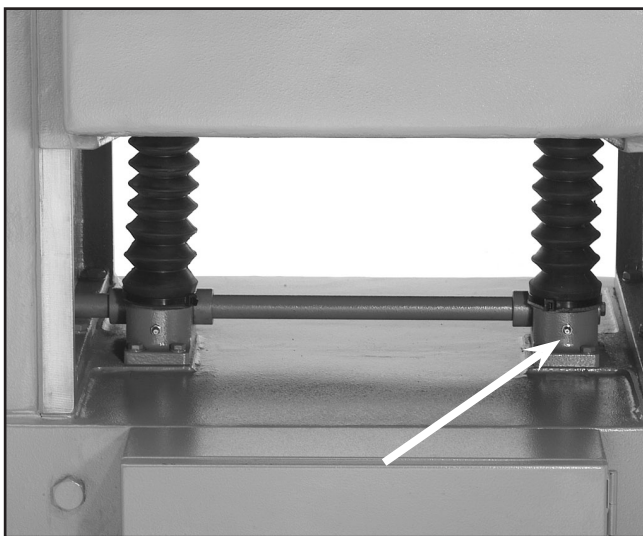

Figure 22. Table lifting gear grease fittings.
3. **Table Lifting Gears** — Once a week for heavy use; once a month for moderate use. See **Figure 22** for locations.